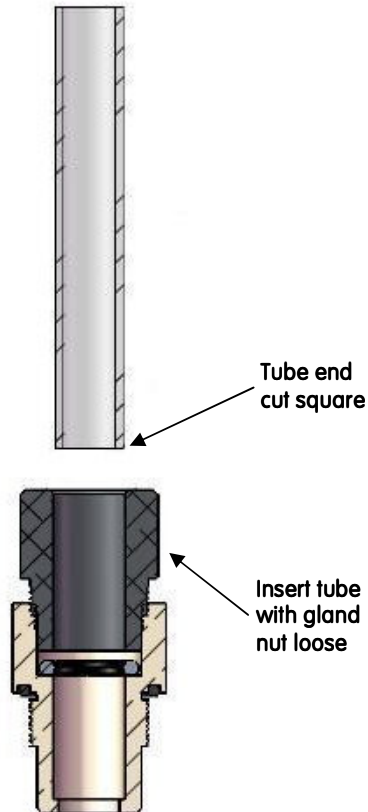

Figure 2.
3. Replace the gland O-ring. Unless the tubing used is an exceptionally tight fit do not lubricate the O-ring. Fit this dry. Screw in the gland nut one to two turns only. Do not tighten the gland nut to the extent that it begins to squash the O-ring. Refer to Figure 2 on the following page. Note that the gland nut should be partially screwed in **before the tube is inserted**. Partially re-inserting the nut before fitting the tube will reduce the risk of the nut cross threading when the tubing is not straight.